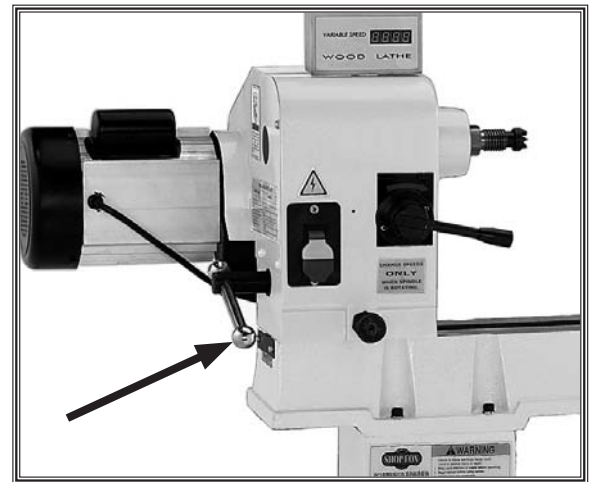

Figure 13. Headstock locking lever.
2. Loosen the headstock locking lever (see **Figure 13**).
2. Loosen the headstock locking handle (see **Figure 13**).